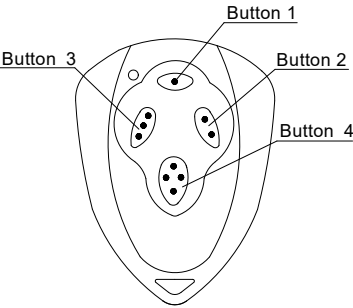

Fig.15
- The remote control works in single channel mode. See Fig.15. with each press of the button, the gate will close stop open stop cycle.